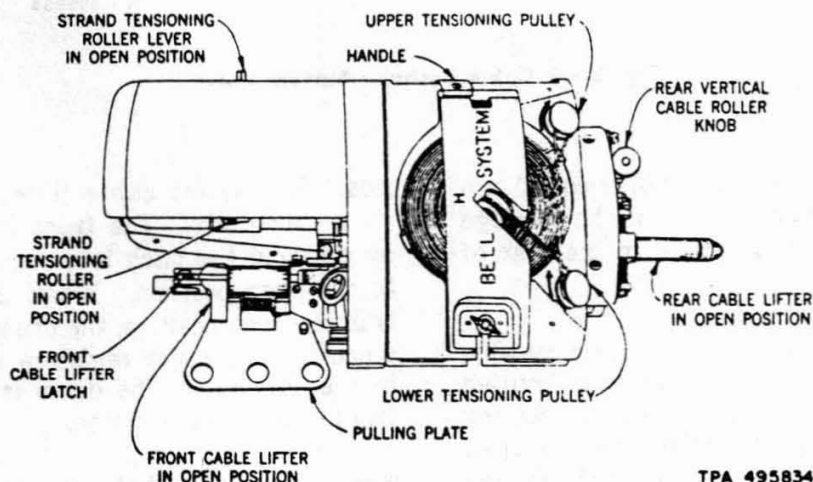

Fig. 1—H Cable Lasher—Left Side View
2.01 The H Cable Lasher (Fig. 1, 2, and 3) is used to secure aerial cables of 1-1/2 inches and less in diameter to 6.6M, 6M, 10M, and 16M suspension strands with a spiral lashing of 045 C Steel Lashing Wire. The lasher consists essentially of a rotatable drum supported on a carriage that provides the mounting for a driving mechanism, cable lifters, cable and strand rollers, and a brake. A 5-foot bridle equipped with snap hooks at each end and a floating ring are furnished with the lasher.